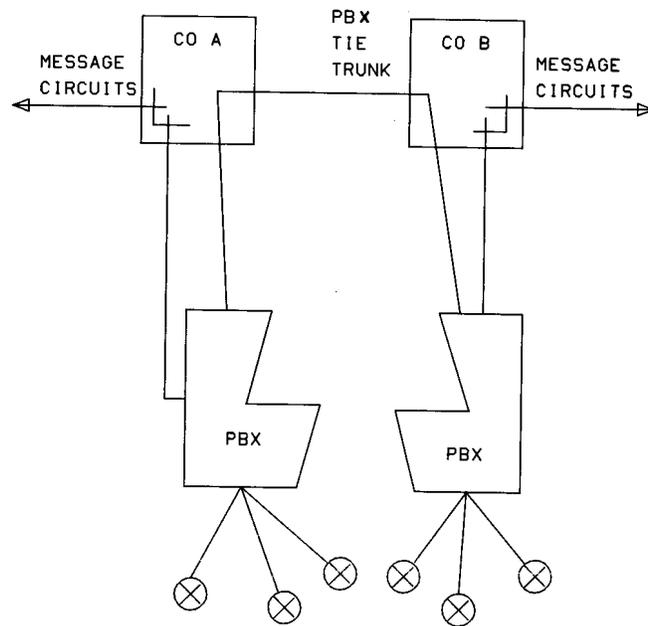

Fig. 3-9—Typical PBX Tie Trunks
- 3.18 A tie trunk is used to interconnect two PBXs (Fig. 3-9) and may be of the following types.